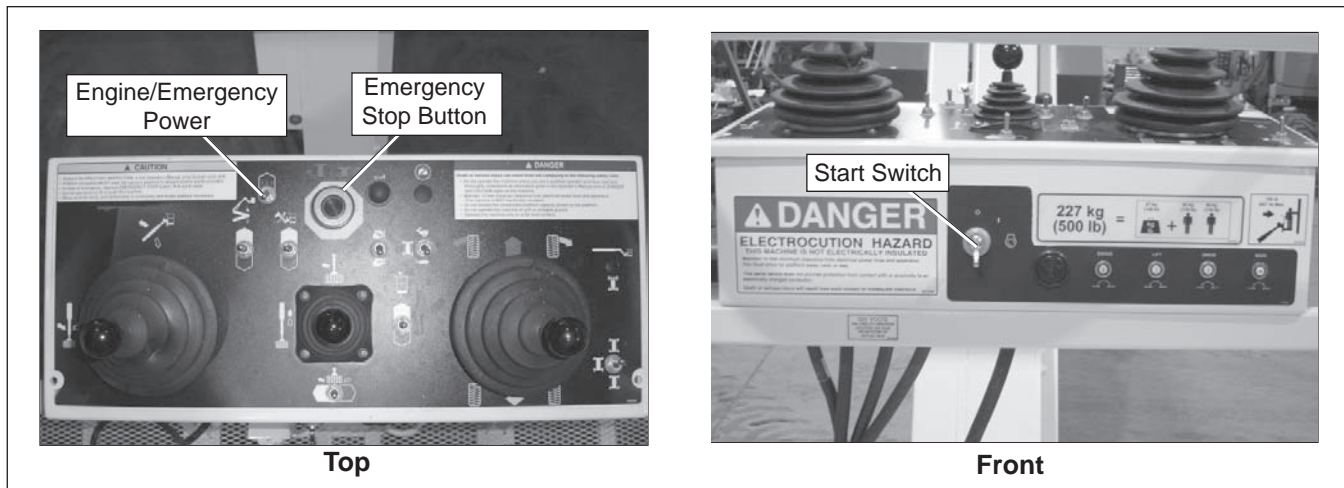

Figure 10.3 – Upper Controls
1. Pull the emergency stop button outward (refer to Figure 10.3).